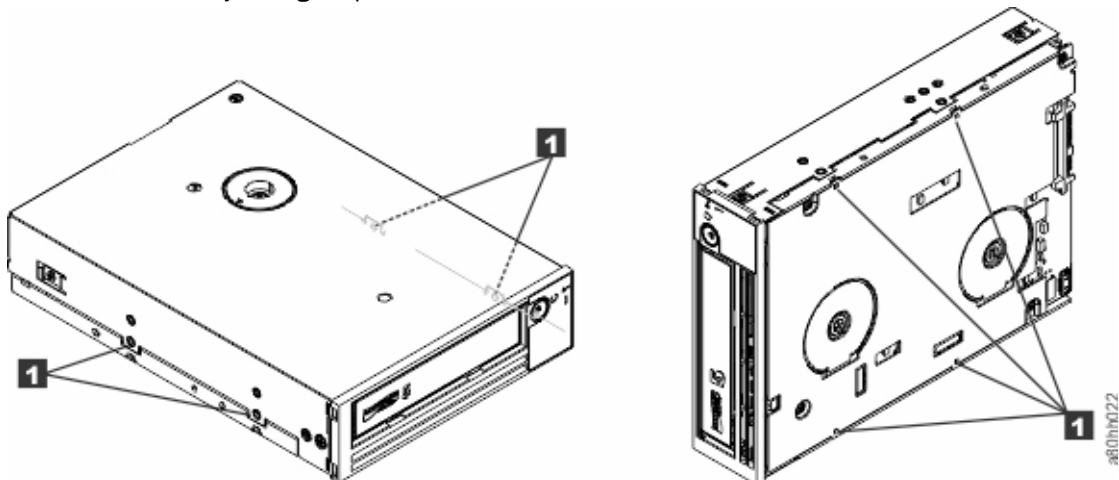

Figure 19. Removing the bezel and the cover from the internal drive
- i) Remove the four cover-mounting screws (1 in Figure 19 on page 80). Two screws are on each side of the drive.